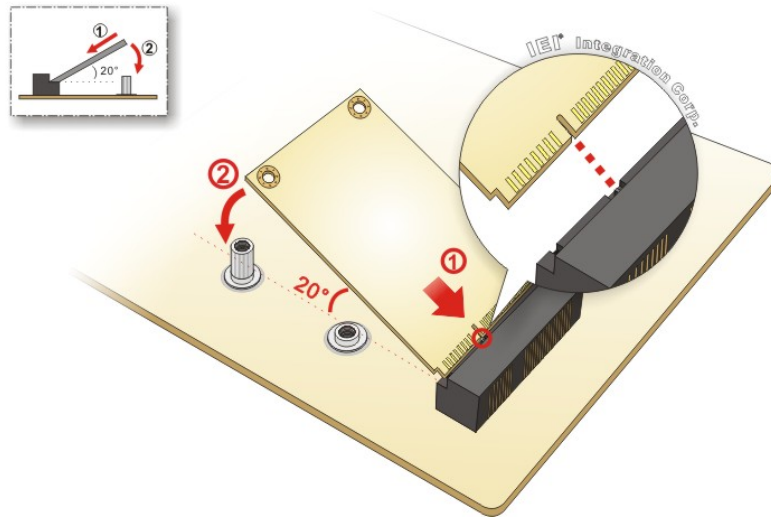

Figure 3-5: Installing an mSATA Module
Step 4: Line up the notch on the mSATA module with the notch on the connector. Slide the PCIe Mini card into the socket at an angle of about 20° (**Figure 3-5**).
Step 5: Secure the mSATA module with the retention screw. Push the other end of the mSATA module down and secure the module with the previously removed retention screw (**Figure 3-5**).